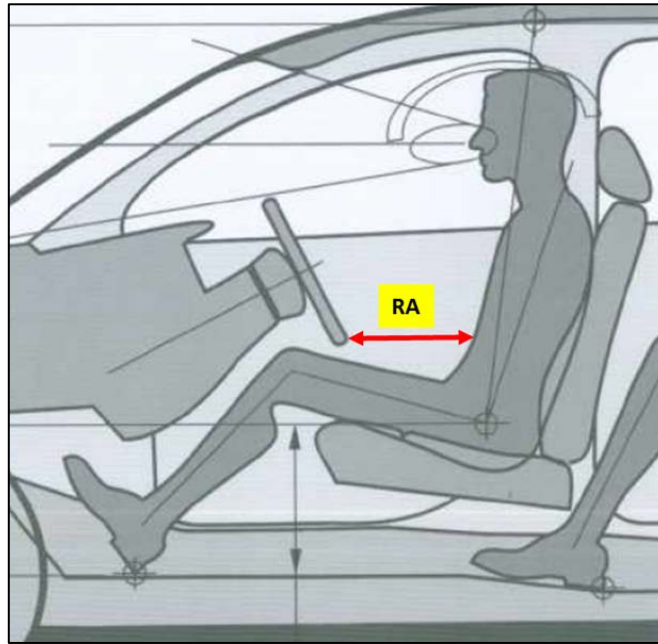

Figure B-62: Driver’s Chest Clearance
There must be a minimum clearance (RA) of **220mm** between the driver’s chest or upper body/torso whichever is closest to the steering wheel, as illustrated in Figure B-62.